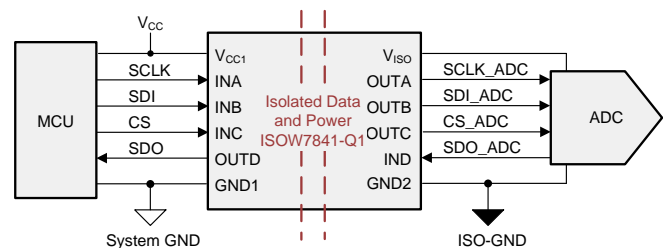

Figure 6. Integrated Isolated Power Supply for Isolated SPI
Discrete isolated power solution consumes larger board space due to the external transformer size, not just in the X and Y dimension but also in the height (Z) dimension. Figure 6 shows an alternate solution that uses a digital isolator with integrated power. In this solution, the isolated power circuitry is included inside the isolator device thereby making this solution compact and system certifications easier with only a single device to certify. With discrete isolated power solution, the external transformer can be larger so the switching frequency is lower and so are the emissions. With integrated power solution, since the transformers are smaller in size, the switching frequencies are higher leading to higher emissions as compared to the discrete solution. But these emissions can be reduced by using stitching capacitors as demonstrated in this application note.